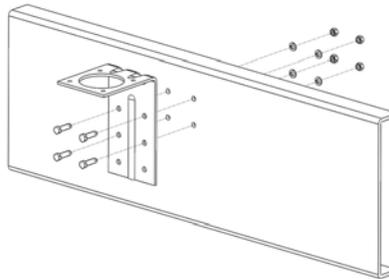

Figure 3: Mounting Bracket to Vehicle
- Mount the bracket using the 5/16" bolts, split washers and nuts provided with the unit. (Fig. 3).